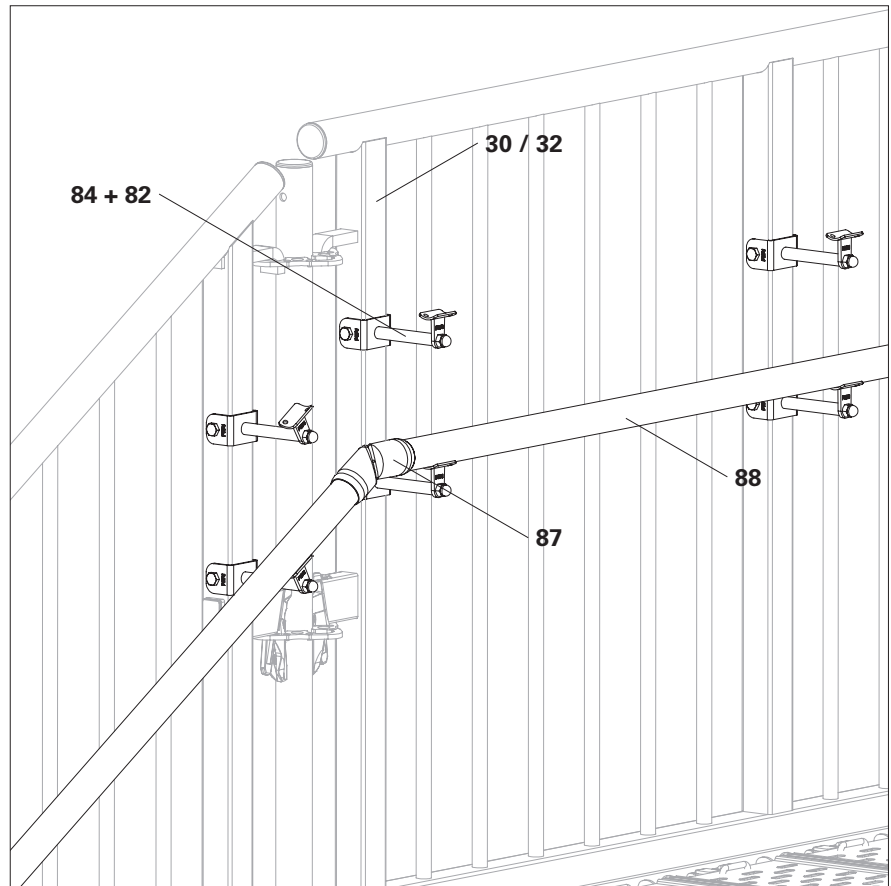

Fig. D3.03
1. Screw additional Handrail Supports PESG (84) with Handrail Bracket sym PEBS (82) to the frame of Guardrail PPG (30 / 32).
2. Attach the cut-to-size Handrail Tube PEHT (88) with Handrail Joint PEHJ (87) to the previous handrail tube, align and place on the handrail bracket.
3. Rivet the handrail tube (88) to the handrail bracket (82) using a 6.0x10 steel rivet (89).
4. Screw the cap nut (76) tightly onto the handrail support. (Fig. D3.03)